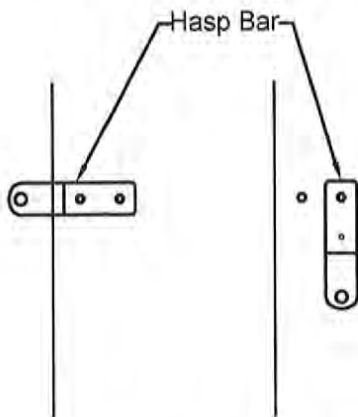

Figure 10.1 Hasp Bar
10.3 Rotate the hasp bar and install the front screw through the hasp bar and tighten both screws, see Figure 10.1.